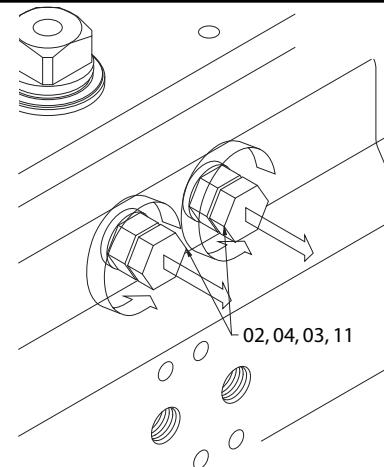

Figure 4
- Remove cap screw if fitted (39).
- Lift position indicator (19) off shaft; it may be necessary to pry gently with a screwdriver.
2. Removal of Stop Cap Screws (02), (Figure 4):